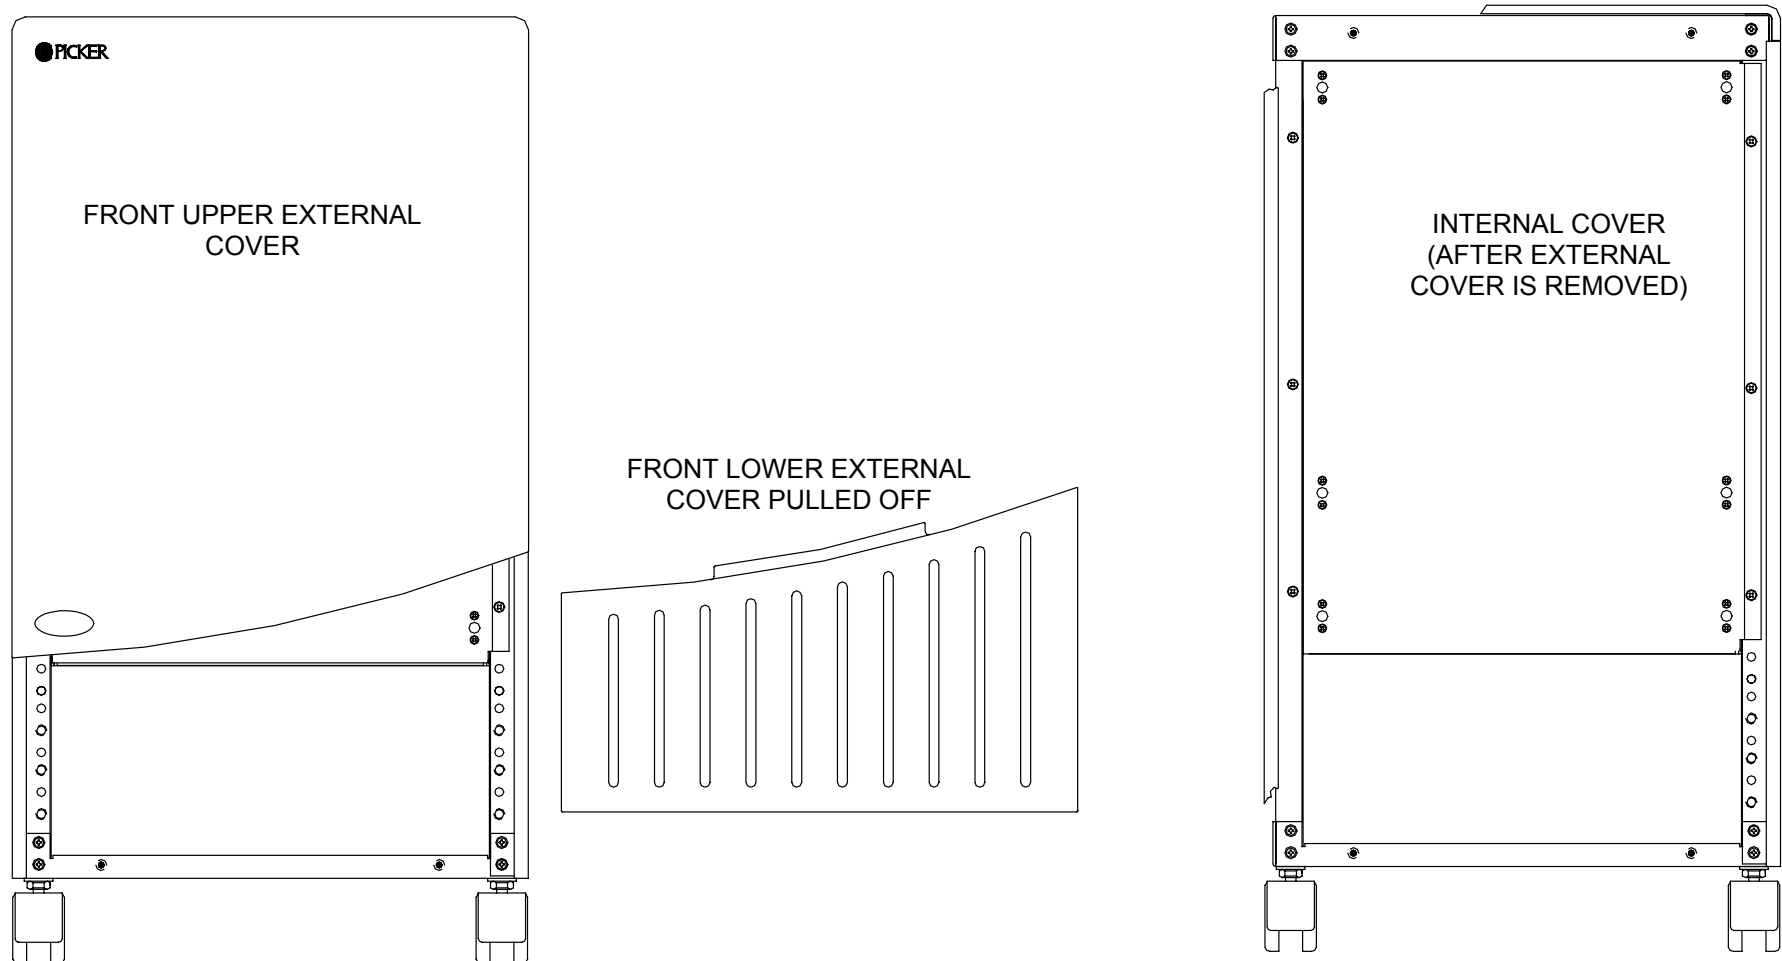

FIGURE 328 AcQImage Cabinet – Front Covers, External and Internal
1. The two front decorative cover sections are held on with ball stud and spring clips. Grasp the sides of the bottom portion and pull outward and downward. Refer to Figure 328.
2. Grasp the middle bottom of the upper portion and pull outward. Refer to Figure 328.
1. The front covers removed here are mainly cosmetic. To access the recon boards (for removal, diagnostics, etc) you must remove the **internal** front internal steel panel by removing the six screws. Refer to Figure 328.